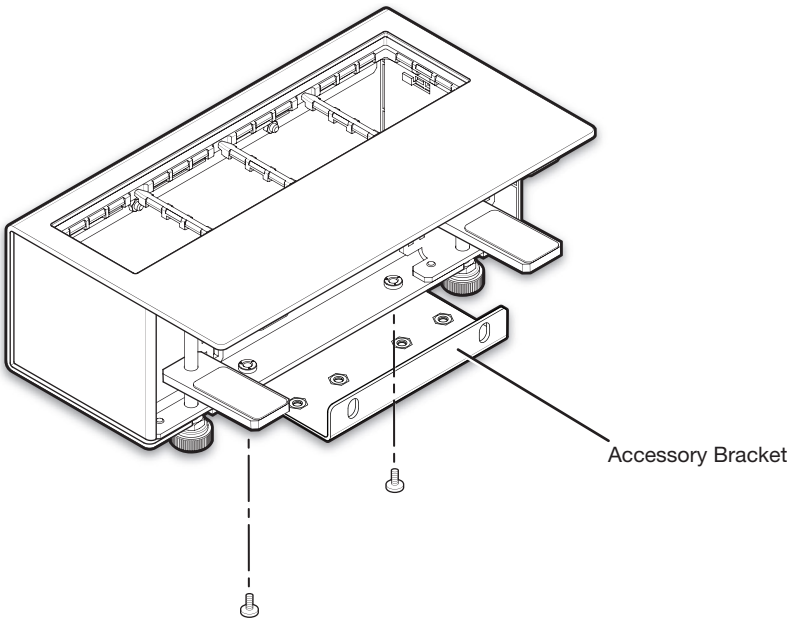

Figure 8. Removing the Accessory Mounting Bracket from the Cable Cubby F55 Edge
1. The Cable Cubby F55 Edge is delivered with an accessory mounting bracket attached. Detach this bracket by removing its two mounting screws (see figure 8). Set the bracket and screws aside. You will reattach them in step 3.